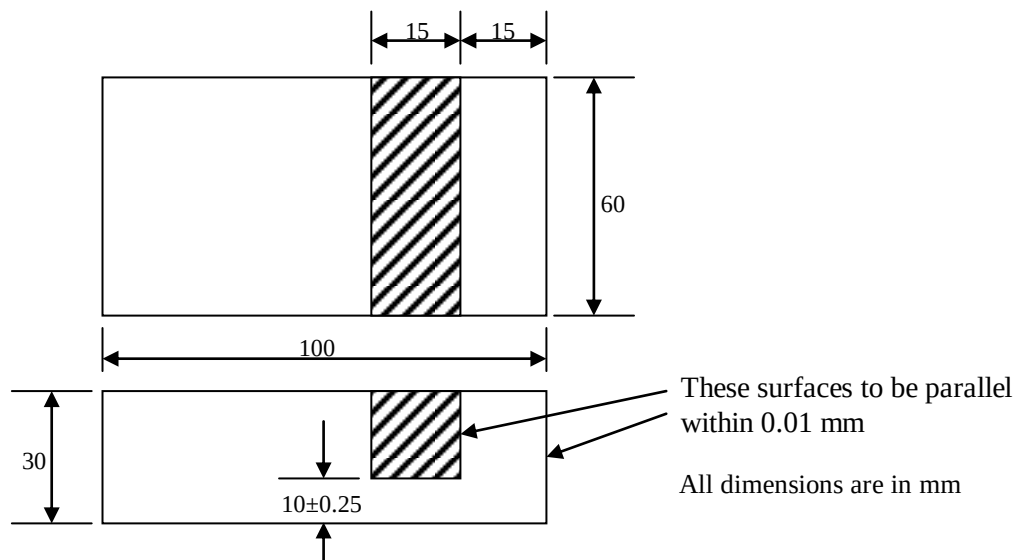

Figure1. Plate shape component to be machined on horizontal milling machine (Question 4(a)OR)
- Q.4 (a)** For the component shown in figure 1, slot of 15 mm x 60 mm is required to be machined on horizontal milling machine with a suitable 'side and face milling cutter' loaded on arbor at appropriate position. For the dimensional requirements shown in the figure, suggest the most appropriate location system for designing its fixture with necessary justification. **07**